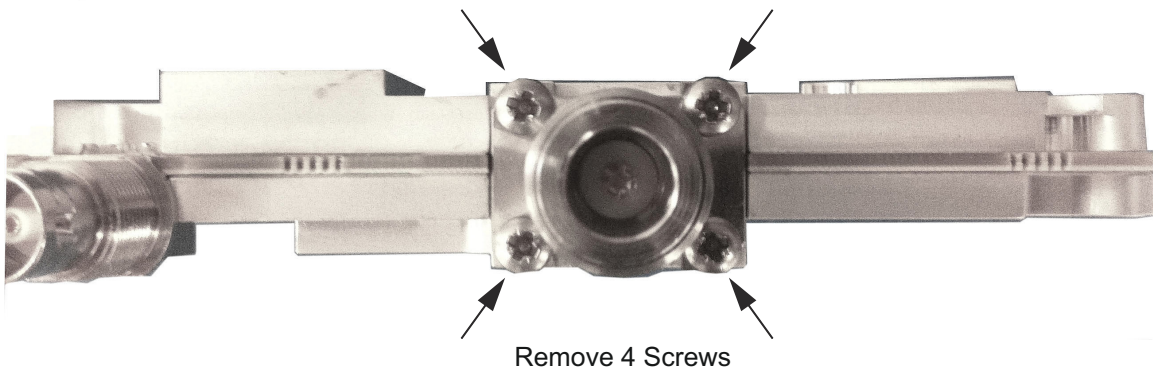

Figure 6-6. Remove 4 Screws
5. Remove the four screws attaching the N connector to the shield (Figure 6-6).